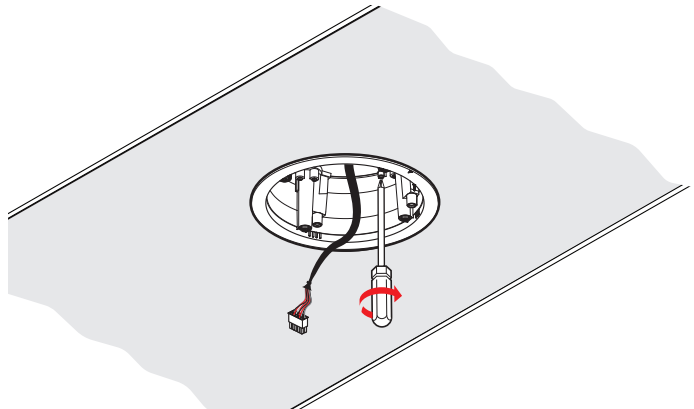

Figure 10. Tighten the Locking Arms to the C-ring
- Clamp the speaker to the C-ring by using a Phillips screwdriver to tighten the four locking arms to the C-ring (**see figure 10**).